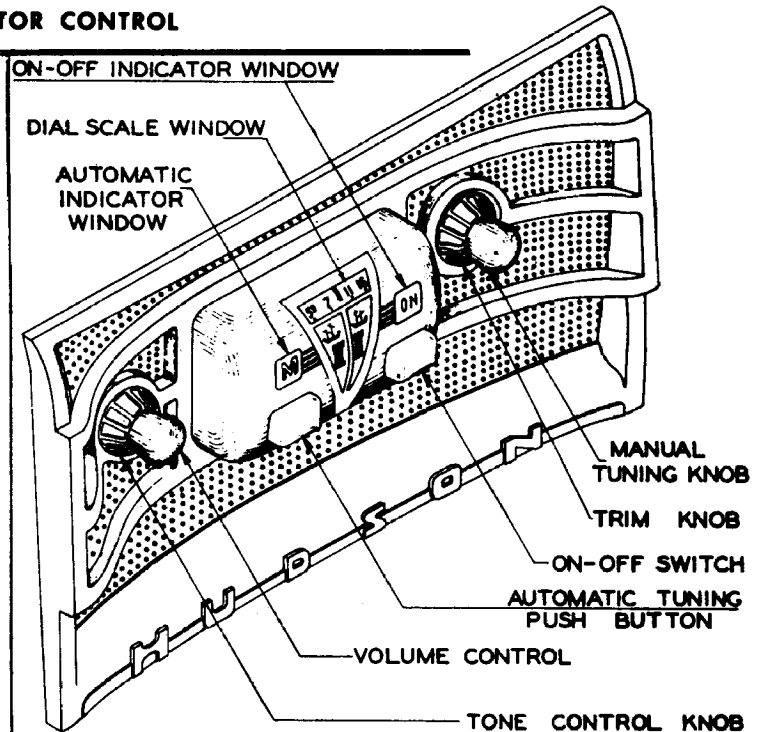

Fig. 1. Operating Controls.
This radio incorporates the new Hudson automatic touch tuning with foot selector control. The purpose and position of each control is shown in figure 1.
The tone control is located directly behind the volume control knob (Fig. 1). Rotating this control to the right or left will change the tone of the receiver. Tuning to the right will emphasize the high notes, while tuning to the left will emphasize the bass notes.
11. Fasten the controls in place as shown in figure 1.